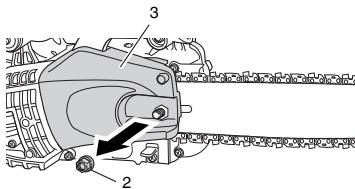
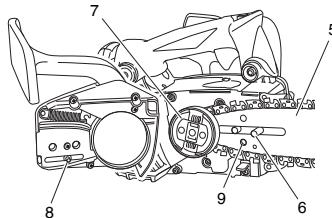

Fig. 2
Fig. 4
- Remove guide bar clamp nut (2). Remove the side case (3) (**Fig. 2**)
- Install the guide bar (5) onto the bolts (6), then push it toward the sprocket (7) as far as it will go. (**Fig. 4**)
- Install the side case (3) onto the bolts (6). Make sure that the boss of chain tension adjust bolt (8) fits into the hole of the bar (9). (**Fig. 4**) Then tighten the guide bar clamp nut (2) by hand that allows the chain bar end to move up and down easily. (**Fig. 2**)